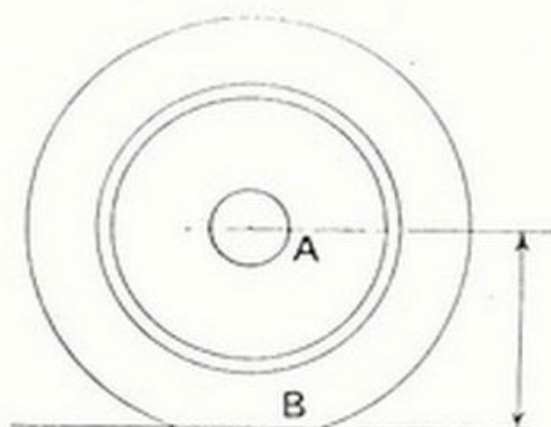

Figure 20.
- R. Revolutions of tyre per mile (see schedule on page 29) and diagram (half wheel, Fig. 20).
For this Drive we require to know—number of teeth on chain wheels (D & E), diameter of cross shaft, and running radius of back tyres (see Fig. 20), also size of tyre as stamped thereon.
WOOD OR PRESSED STEEL WHEELS. — These types offer little difficulty as the gear ring can be attached direct to the inside hub plate, which is a part of the hub; for this purpose we supply a gear ring with instanding lugs to reach well over the plate. For this particular front drive we require to know the size of front wheel tyres, running radius of front tyres as per Fig. 20 on page 28, diameter of flange, number and size of bolts in flange and centres of same, and length of flexible shafting. Fitting instructions for above would be precisely the same as for an ordinary gear drive.
WIRE WHEELS.—These wheels generally have a permanent part of the hub exposed in the saucer of the detachable wheel, and we can supply a special carrier, known as the "Spider" fitting, which serves to support the gear ring, and the latter always remains on the permanent hub. For this type of front wheel, we require to know make of detachable wheel, running radius of front tyre as per Fig. 20 on page 28, diameter of that part of the hub exposed in the saucer of the wheel, and length of flexible shafting. Fitting instructions for this drive are generally as for an ordinary gear drive, but care must be taken to make the spider fitting a tight fit on the permanent hub.
For this type of Drive we require to know the number of teeth on the two chain wheels, running radius of back tyres (Fig. 20) and number of teeth on engine wheel nearest the edge of the chassis, as well as pitch of same.